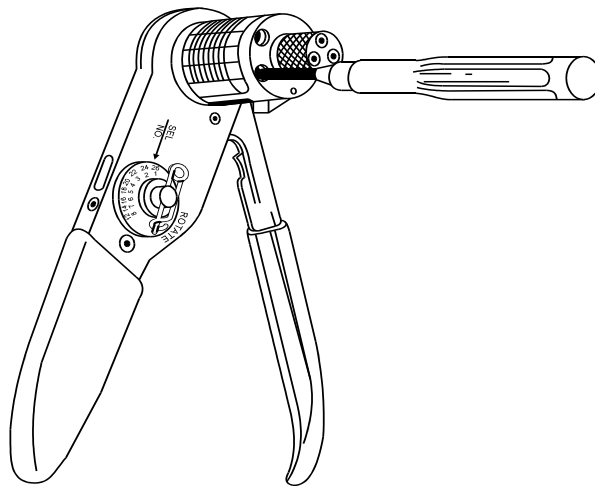

Figure 10-21 Crimp Tool Build Up and Adjustment
- c. Seat the turret head onto the retainer ring on the back of the tool. Align the screws with the tapped holes ensuring correct orientation of the turret. Tighten the cap screws with an appropriately sized Allen key as shown in Figure 10-21.